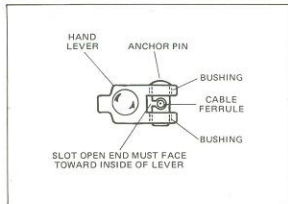

Figure 4-1. Clutch Hand Lever Cable
To disassemble cable from hand lever at anchor pin, turn sleeve into bracket (3) and remove cable from side slot as shown in Figure 4-1. When reassembling cable ferrule in hand lever anchor pin with side slot, be sure slot is toward inside as shown.